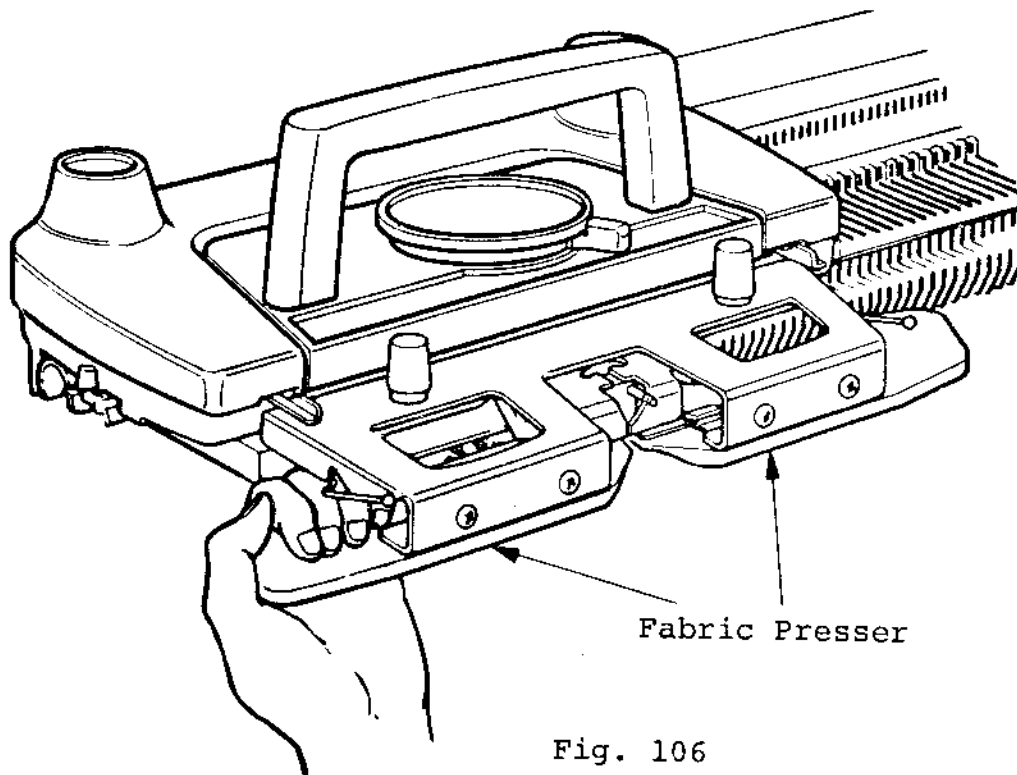

Fig. 106
5. In case the Fabric Presser touches the needles too much, move the Carriage to the end of the needle bed (in the direction of the part of the Fabric Presser that requires adjustment) and pull the edge of the Presser downwards with your hand, as indicated in Fig. 106.